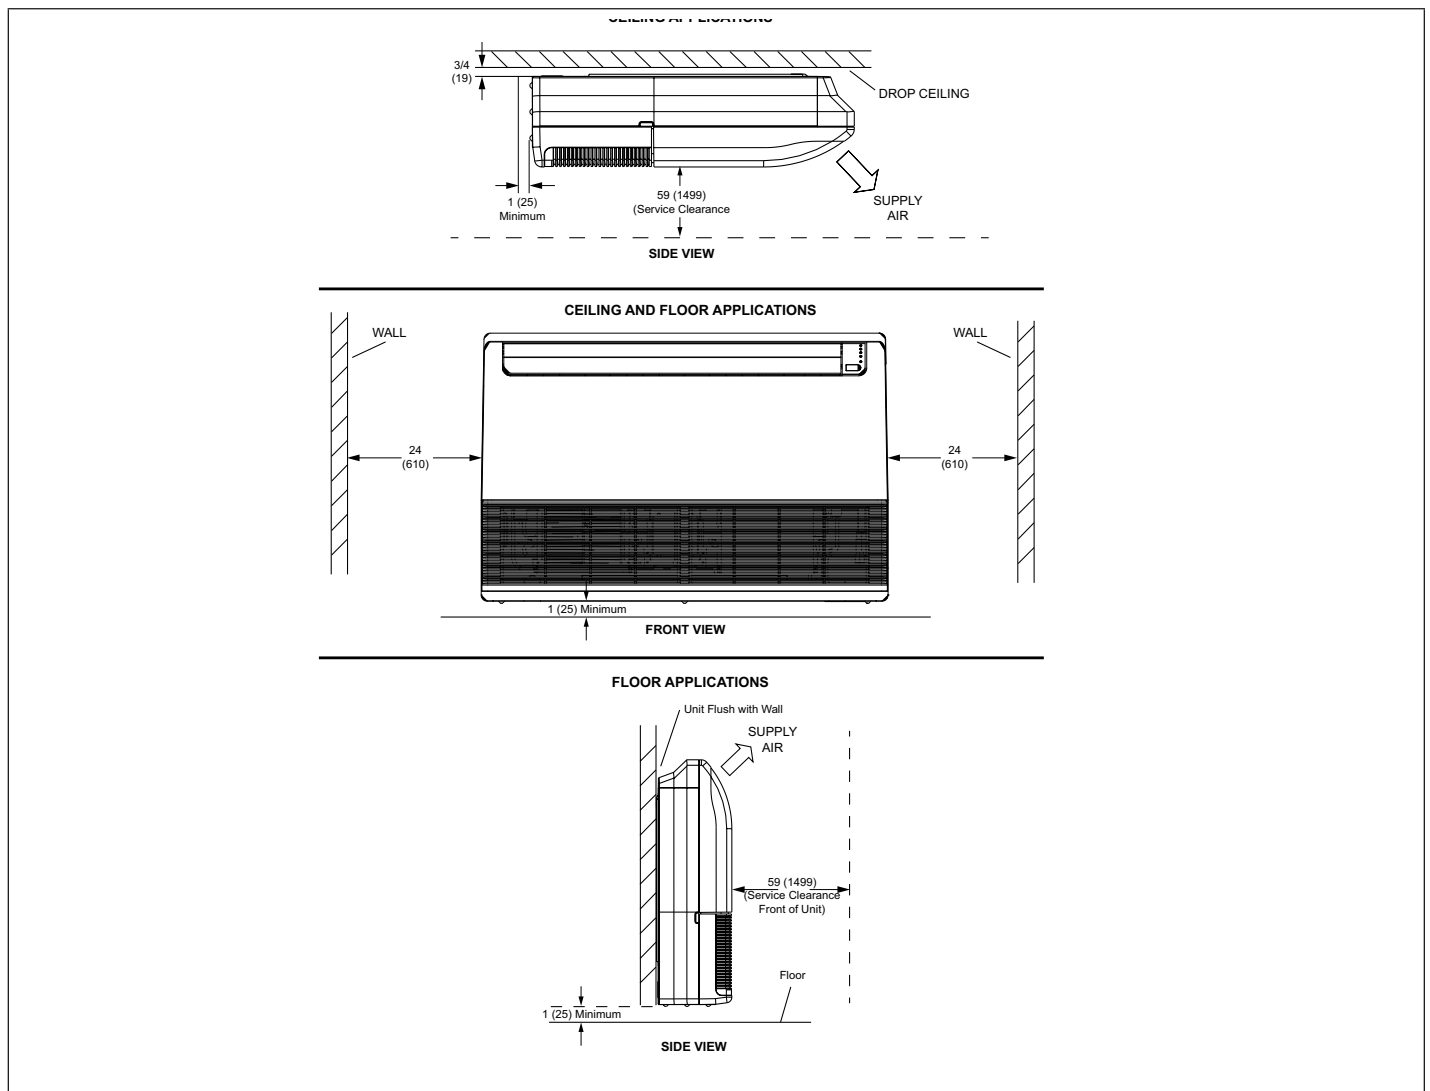

Figure 6. Indoor Unit Clearances - Inches (mm)
- Locate a suitable position within the space where maintenance access and supply air will not be restricted or affected by obstacles. See "Figure 6. Indoor Unit Clearances - Inches (mm)" on page 7 for minimum clearances